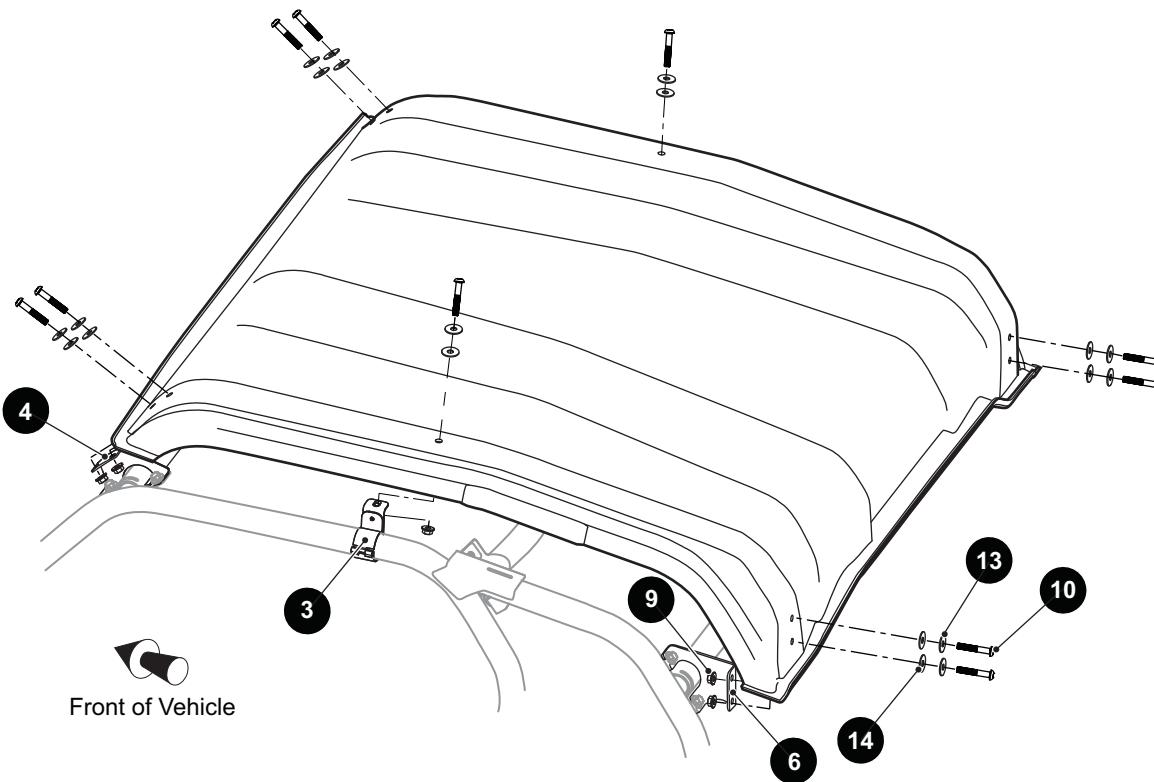

**Fig. 3 Secure Canopy Clamp**
2. Close the hinges around the ROPS tubes and secure with Torx bolts (11) and washers (12) (Ref. Fig. 3).